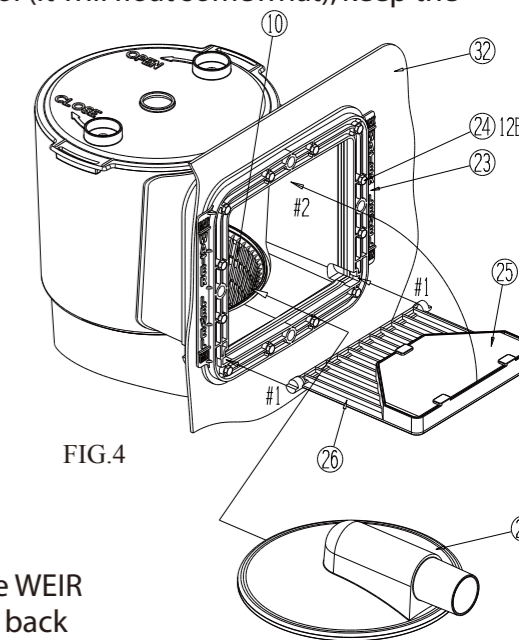

FIG.4
E. Place the Filter Cartridge (9) and the Strainer Basket (10) back into the Skimmer Canister (8). It is important that the Filter Cartridge (9) slips over the Pump Retaining Nut (7) and seals at the bottom of the canister so that the Strainer Basket (10) will seat in it's groove inside the canister. See Fig. 4. Place the Lock Top (11) on top of the Skimmer Canister (8) and lock it in place by turning it clockwise until it is locked. Push the Weir Foam Pad (25) into the Weir (26) and under the tabs, to hold it in place. Take the Weir (26) and slide it into the grooves from inside the pool. See Fig. 4. Once the weir is pushed inside the grooves, flip it over as shown by the Arrow #2 in Fig. 4, to lock it in place. **NOTE:** The weir can **ONLY** be pushed into the grooves as shown by Arrows #1 in Fig. 4, by holding it horizontal. Be sure the weir moves freely through the opening, if not carefully trim away any obstructing material to allow the weir to move freely.
F. After the pool is filled, SEE (WATER LEVEL FIG.4) check the hose connections and fittings to make sure there is no water leakage. If any leaks are found, see #4 in the Trouble Shooting guide on page #8.
B. VACUUM ADAPTER USE; allows you to vacuum your pool, see part # 27 FIG.4 The VACUUM ADAPTER is included with the SKIMMER unit, it will be necessary for you to purchase a Vacuum, Vacuum handle, and a Vacuum hose from your local pool supply retailer, also your home improvement centers, and large retail stores sometime carry these as seasonal items and they range from economy to deluxe.
C. To install the VACUUM ADAPTER turn off your pump, remove the WEIR part # 26 FIG. 4, see the section on WEIR installation page 4 (step E) and reverse the process by lowering the WEIR and sliding it out through the openings in the FACE PLATE part # 23 shown in FIG 4. Place the WEIR in a safe place because you need to reinstall it after vacuuming so that your skimmer operates properly.